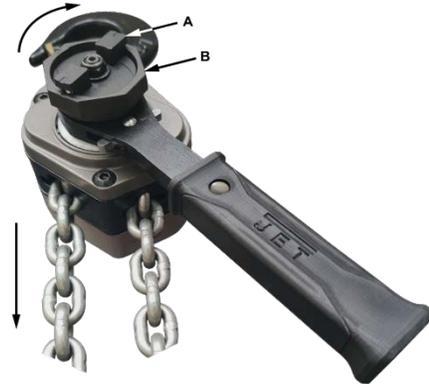

Figure 4
3. Correctly center the load on the bottom hook (Figure 4). Incorrect loading is dangerous to the operator, the lever hoist, and the load.